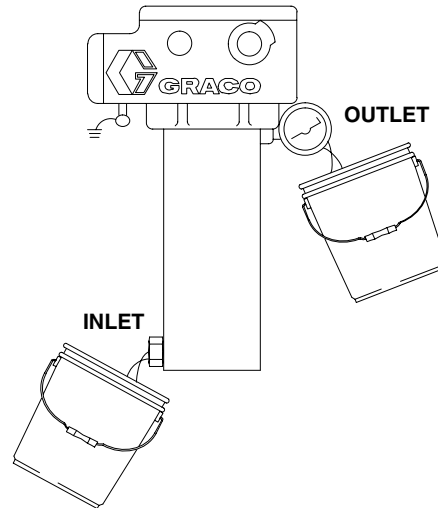

Fig. 11
2. Remove the inlet and outlet fittings from the heater. Have a container ready to catch the fluid. See Fig. 11.